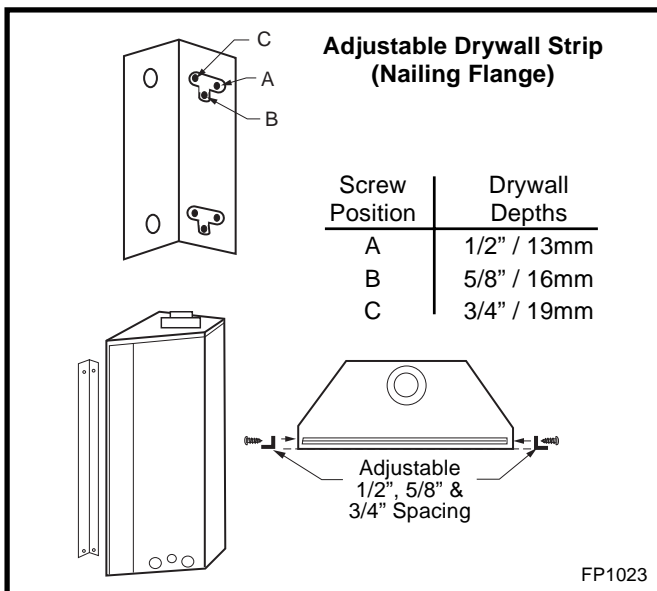

Fig. 4 Nailing flanges.
4. Attach the fireplace to the frame using the adjustable frame drywall strips (located behind the access door for shipping). Preset the depth to suit the facing material of the wall. The strips are adjustable to 1/2" (13mm), 5/8" (16mm) or 3/4" (19mm). (Fig. 4)